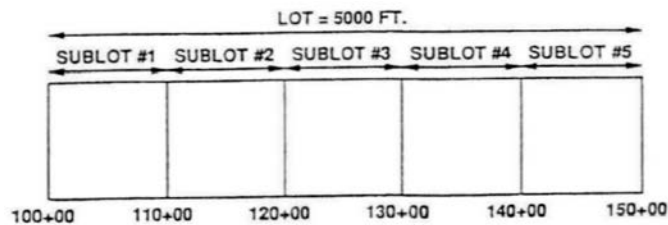

Figure II-5. Relationship between lot and sublots based on area.
2. *Sublot size.* The beginning station for the first lot is 100+00. This lot ends at Station 150+00 as shown in Figure II-5. This is equal to 5,000 ft. The 5,000 ft of paving must be stratified into five equal sublots, because five samples per lot are required.
Figure II-5 shows how this lot is divided.